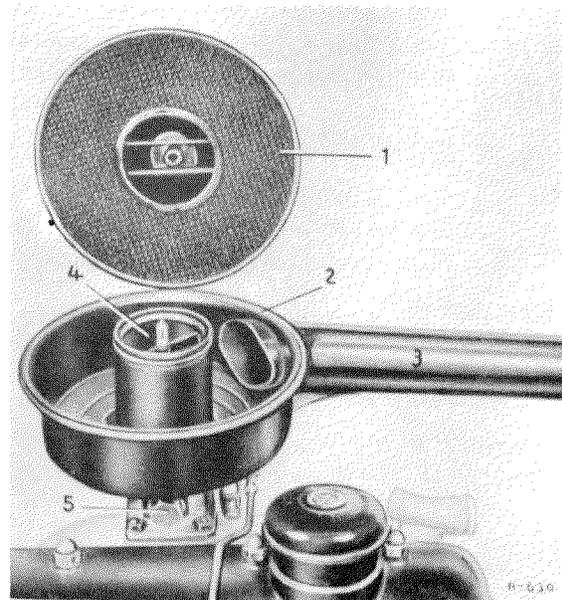

Figure 09-8/1
Depending on the design, loosen the clamping screw and remove the filter bowl from the throttle duct or after loosening of the tension locks or after unscrewing of the wing nut, remove the filter upper part with filter element (1) from the filter lower part (see Figure 09-8/1).
Then **uniformly soak** the filter element or that filter part into which the filling is installed with at least 50 grams, i.e. approx. 60 cm3, of motor oil by spraying, pouring or dipping, to ensure that the filter layer is completely covered with a thin oil film. Before screwing on the filter upper part with element or filter part with the filling, wait until the oil completely has penetrated into the filter filling. Also wash and rub the filter lower part (if applicable). Now, fit the filter upper part with element (1) on the filter lower part and fix with the tension locks or with a wing nut on the filter lower part (see Figure 09-8/1). With cylindrically shaped wet-type air filter and clamping connection, place the filter head on the throttle duct and tighten the clamping screw.
**To prevent confusions, the air filter of the OM 636 has a plain upper part (1) compared to the cover of the OM 621 which is provided with six reinforcement ribs. The filter upper part of the OM 636 may by mistake be mounted on the lower part of the OM 621; this may, however, result in a fracture of the web in the lower part of the filter because of bad contact. If the filter upper part of the OM 621 is placed on the lower part of the OM 636, a humming of the filter will be the consequence, because the filter is not tight then (see Figure 09-8/1).**